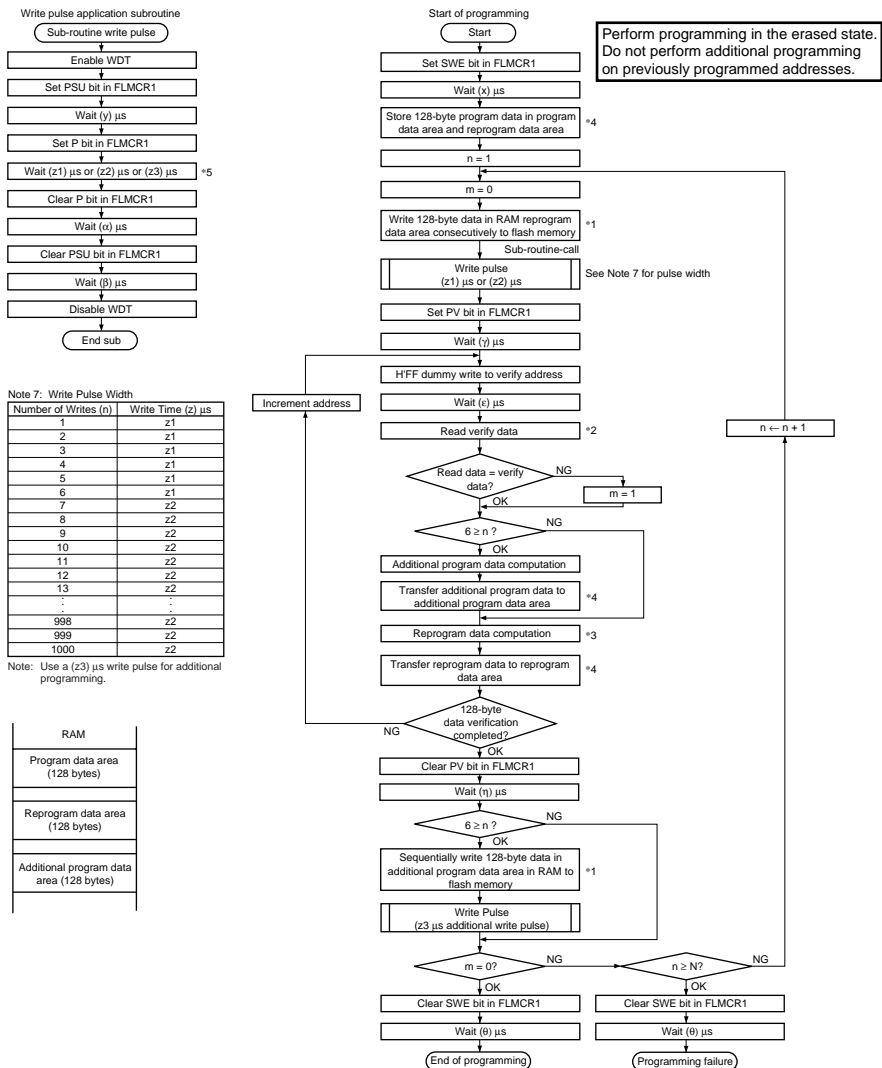

Figure 19-48 Program/Program-Verify Flowchart (Preliminary)
After the elapse of a given programming time, the programming mode is exited (the P bit in FLMCR1 is cleared to 0, then the PSU bit is cleared to 0 at least (α) μ s later). Next, the watchdog timer is cleared after the elapse of (β) μ s or more, and the operating mode is switched to program-verify mode by setting the PV bit in FLMCR1. Before reading in program-verify mode, a dummy write of H'FF data should be made to the addresses to be read. The dummy write should be executed after the elapse of (γ) μ s or more. When the flash memory is read in this state (verify data is read in 16-bit units), the data at the latched address is read. Wait at least (ϵ) μ s after the dummy write before performing this read operation. Next, the originally written data is compared with the verify data, and reprogram data is computed (see figure 19-48) and transferred to the reprogram data area. After 128 bytes of data have been verified, exit program-verify mode in FLMCR1 to 0, and wait again for at least (θ) μ s. If reprogramming is necessary, set program mode again, and repeat the program/program-verify sequence as before. However, ensure that the program/program-verify sequence is not repeated more than (N) times on the same bits.